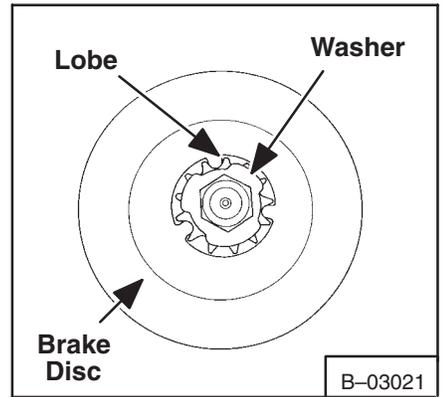

Fig. 4-8 Removing Brake Disc
5. Push the brake disc back on the sprocket and turn it until the lobes on the disc will pass the lobes on the retaining washer (Fig. 4-8).